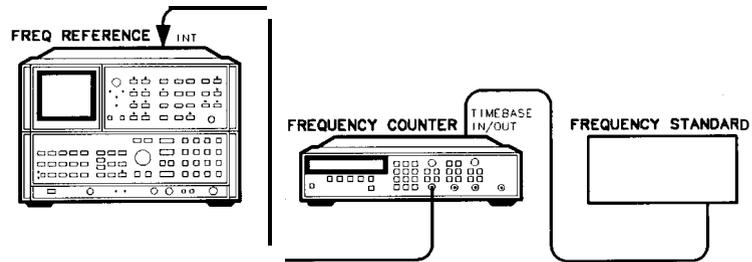

Figure 3-54. Time Base Adjustment Setup
4. Connect the (Cesium Beam) Frequency Standard to the Frequency Counter's rear-panel TIMEBASE IN/OUT connector as shown in Figure 3-54.
13. Position the spectrum analyzer on its right side as shown in Figure 3-54 and remove the bottom cover. Typically, the frequency of the A27 10 MHz Frequency Standard will shift slightly when the spectrum analyzer is reoriented. Record this shifted frequency of the A27 10 MHz Frequency Standard.